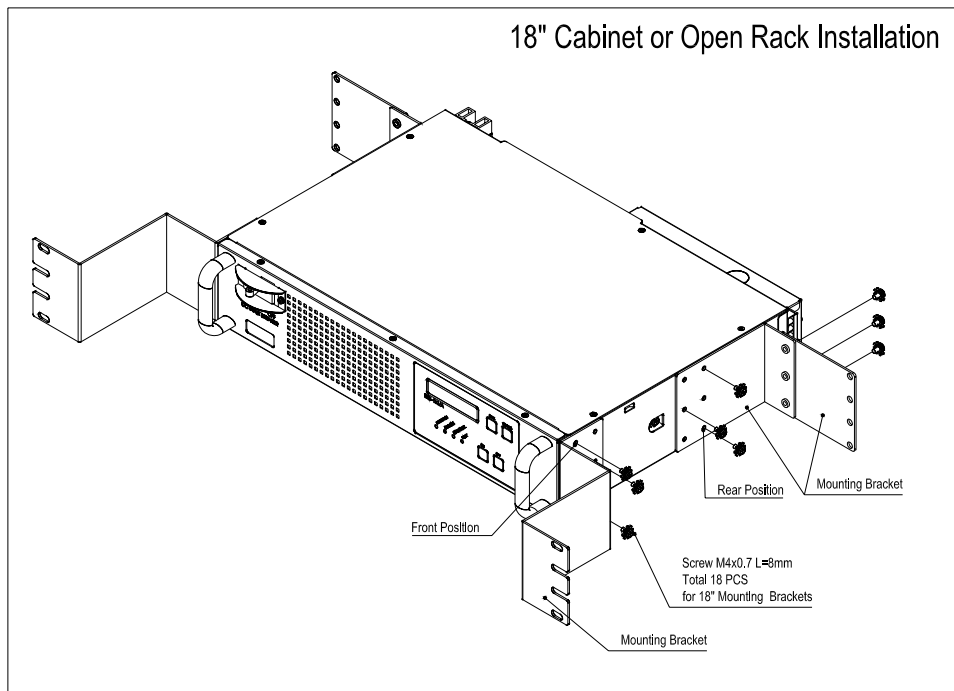

Figure 4. 18" Cabinet or Open Rack Installation
- For 18 inch rack installation, 6 PCS of the "18" Mounting Bracket "should be used (**Fig. 4**)